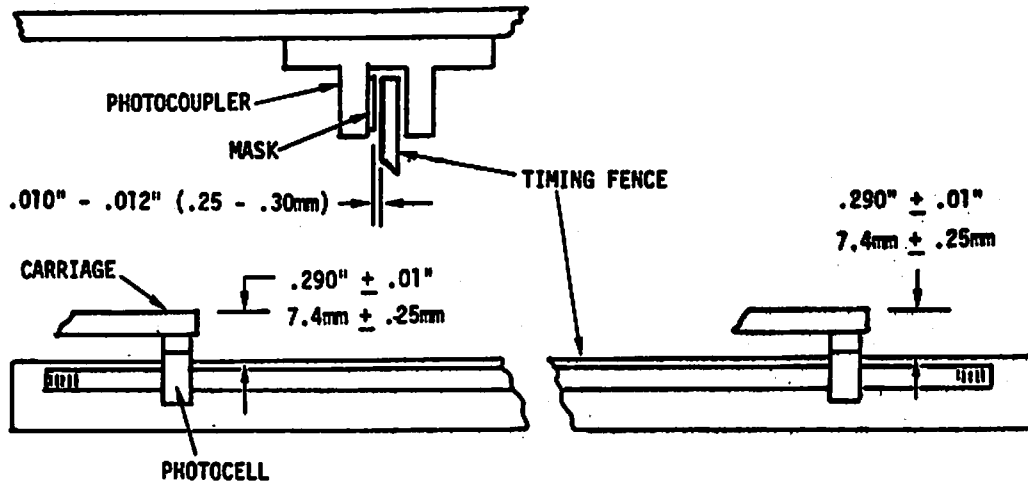

FIGURE 5-12 TIMING FENCE ADJUSTMENT CHECKS
- 2) The distance between the face of the fence and the photocoupler should be consistent along the length of the fence with a gap of $.010'' - .012''$ (metric $.25 - .30$ mm). (See Figure 5-12.)